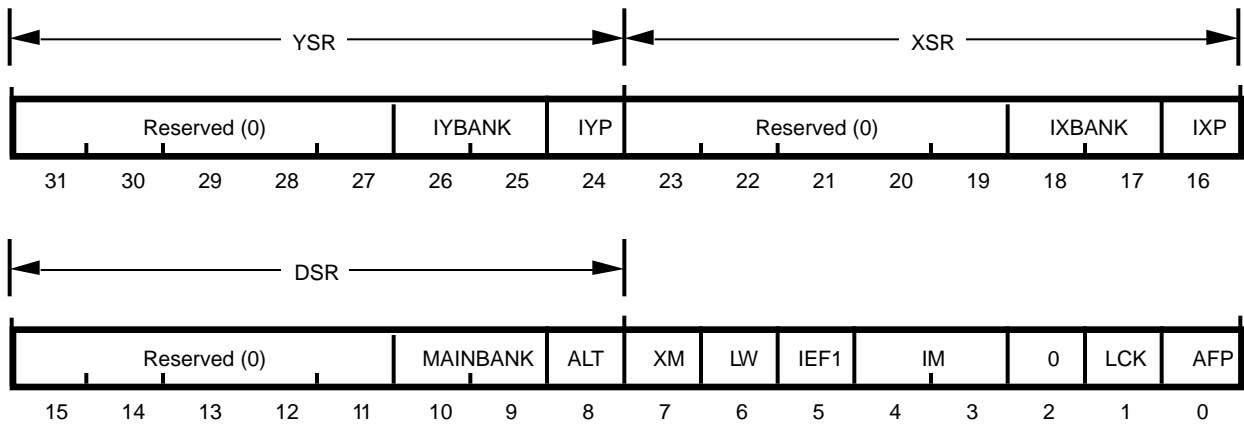

Figure 22. Select Register
The CPU control register space consists of the 32-bit Select Register (SR), Figure 22. The SR may be accessed as a whole or the upper three bytes of the SR may be accessed individually as the YSR, XSR, and DSR. In
The Select Register (SR) controls the register set selection and the operating modes of the Z380 CPU. The reserved bits in the SR are for future expansion; they will always read as zeros and should be written with zeros for future compatibility. The SR is shown in Figure 22.